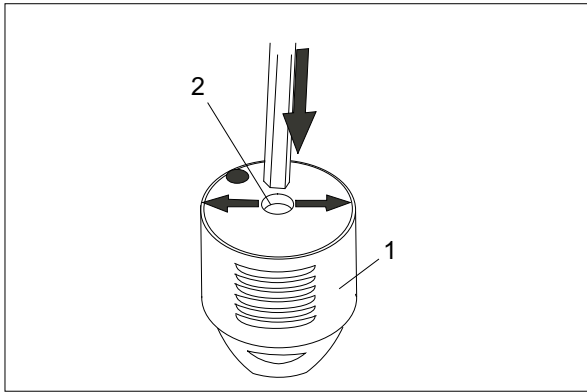

Fig. 45 Ball cage
All balls are located in removable ball cages (Fig. 45/1).
2. Pull the ball out of the ball cage or use a pen to push it out by introducing the pen in the upper opening of the ball cage (Fig. 45/2).